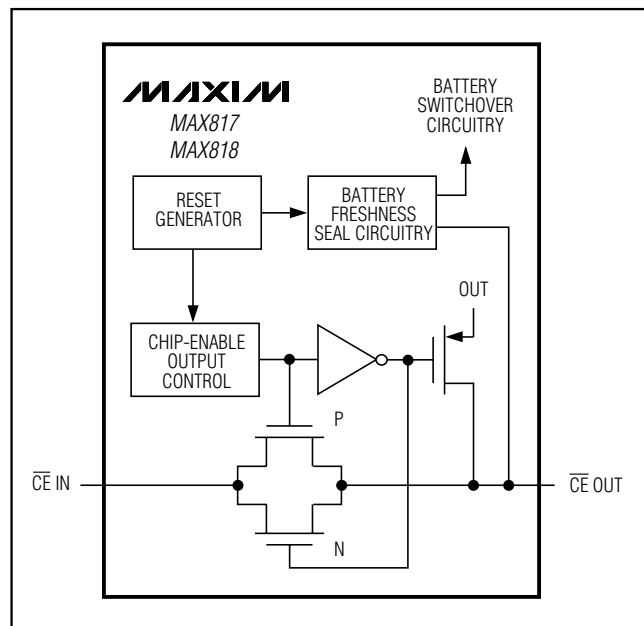

Figure 5. Chip-Enable Transmission Gate
Internal gating of the chip-enable (CE) signal prevents erroneous data from corrupting CMOS RAM in the event of an undervoltage condition. The MAX818 uses a series transmission gate from  $\overline{CE}$  IN to  $\overline{CE}$  OUT (Figure 5). During normal operation (reset not asserted), the CE transmission gate is enabled and passes all CE transitions. When reset is asserted, this path becomes disabled, preventing erroneous data from corrupting the CMOS RAM. The short CE propagation delay from  $\overline{CE}$  IN to  $\overline{CE}$  OUT enables the MAX818 to be used with most  $\mu P$ s. If  $\overline{CE}$  IN is low when reset asserts,  $\overline{CE}$  OUT remains low for typically 15 $\mu s$  to permit the current write cycle to complete.
When the CE transmission gate is enabled, the impedance of  $\overline{\text{CE}}$  OUT is equivalent to a  $40\Omega$  resistor in series with the source driving  $\overline{\text{CE}}$  IN. In the disabled mode, the transmission gate is off and an active pull-up connects  $\overline{\text{CE}}$  OUT to OUT (Figure 5). This pull-up turns off when the transmission gate is enabled.